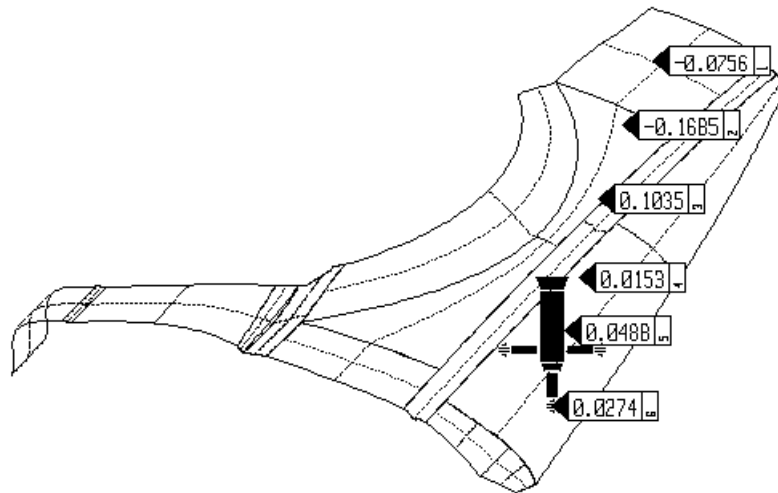

Figure 8-2
- In addition to the graphical representation of the deviation, a window will be overlayed displaying the coordinates of the points and its deviation relative to the tolerance range. If you manually probe further points, their deviation will be displayed in the same window and you will receive a complete deviation distribution. (see Fig. 8-2).